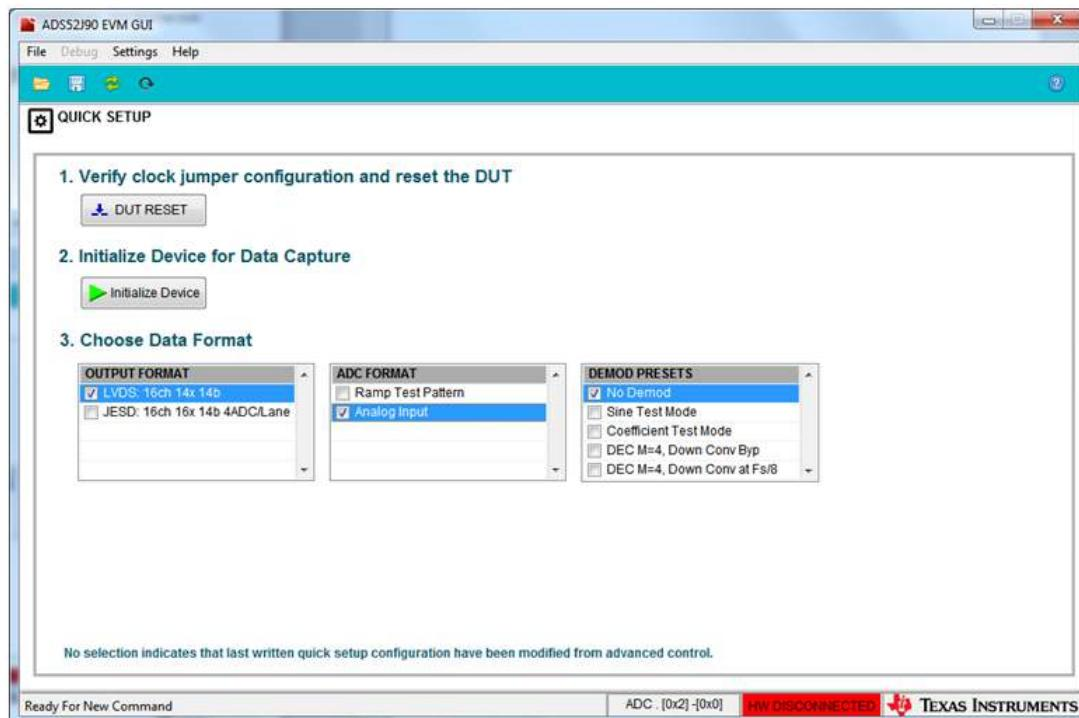

Figure 22. ADS52J90 16-Channel SINE Capture (a)
5. To capture a sinusoidal input, return to the HMC-DAQ GUI and press the check box next to **Analog Input** as shown in Figure 22.